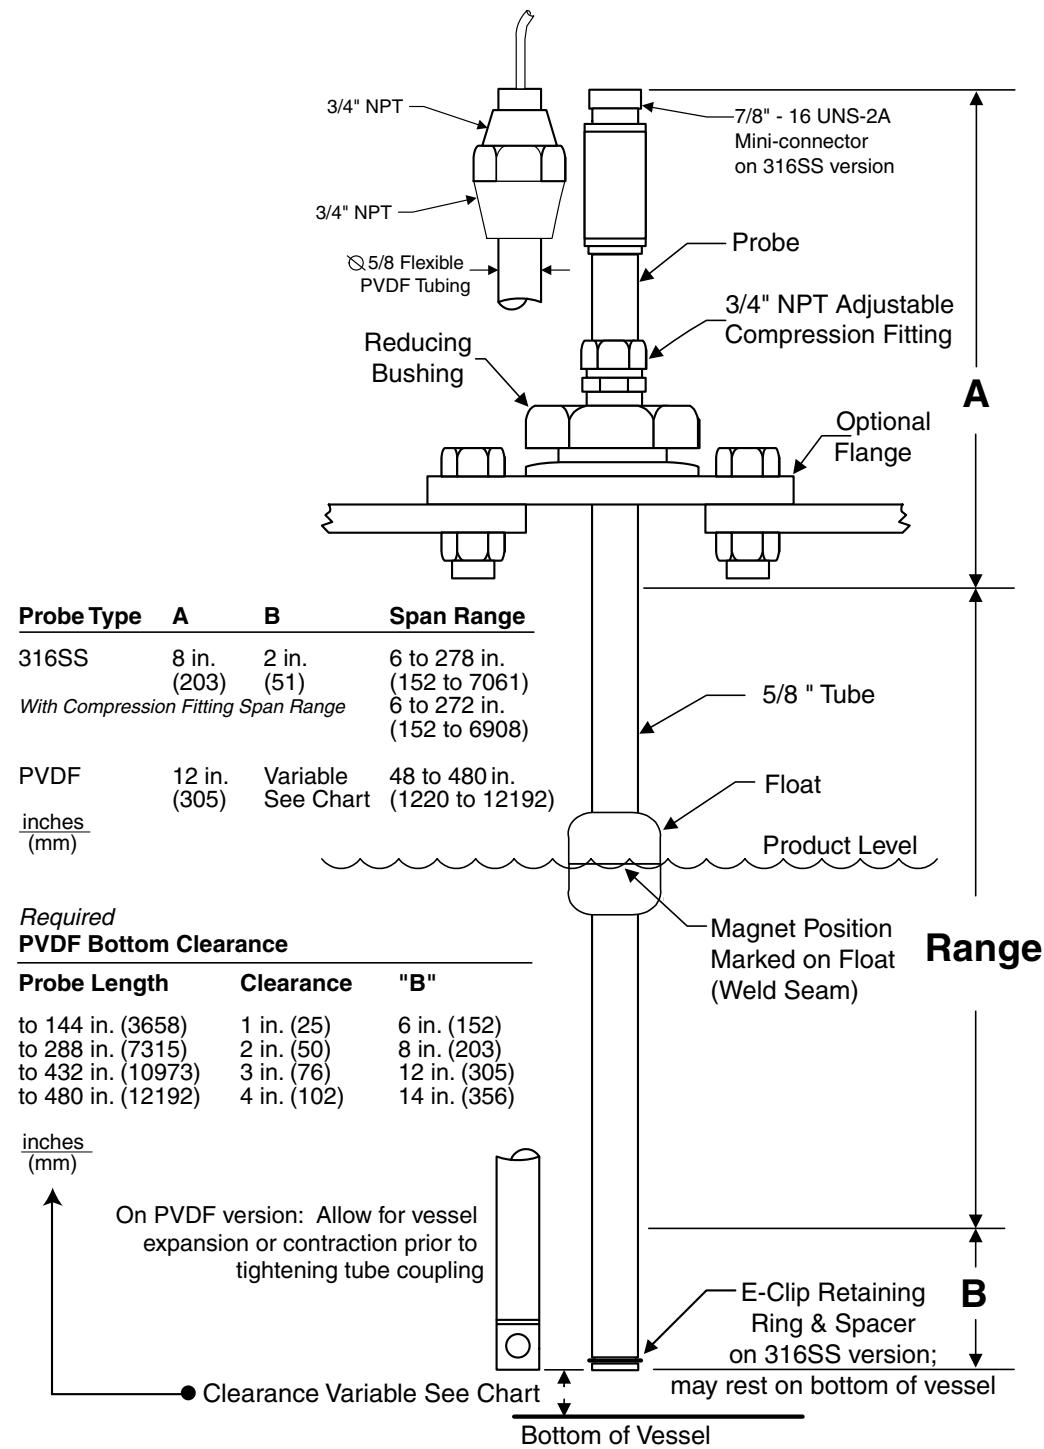

Figure 2-1
- Mount the probe perpendicular with gravity. See Figure 2-1.